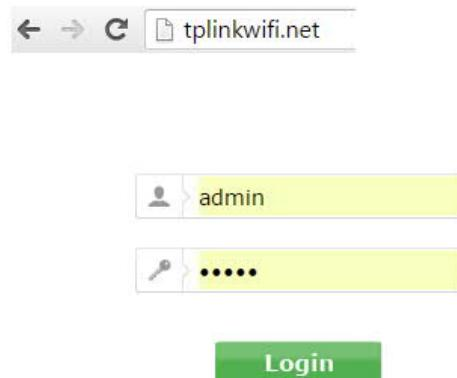

Figure 53: Logging In
2. On the same device, launch a Web browser, then type <http://tplinkwifi.net> in the address bar. (Figure 53)